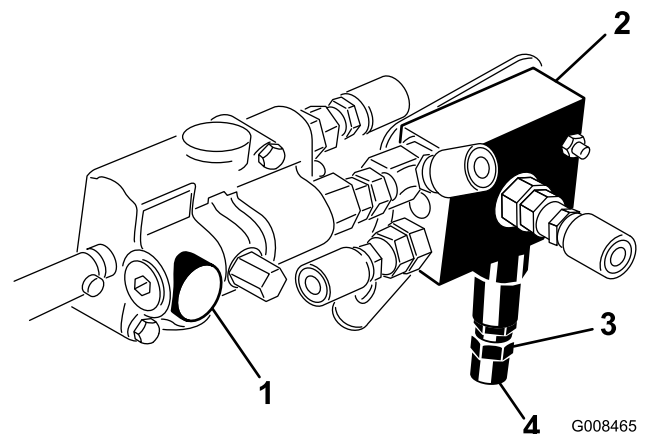

Figure 13
3. Loosen the jam nut at the bottom of the counterbalance valve (Figure 13). The valve is located on the right side of the machine.